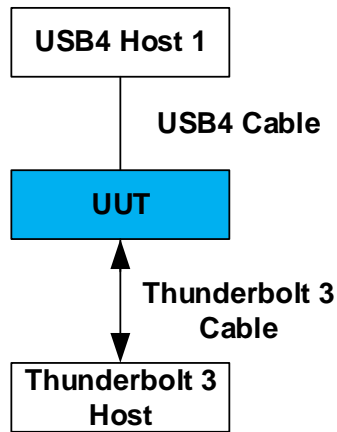

Figure 4-6: USB4 Host to Thunderbolt 3 Host Communications with a UUT (USB4 Hub Under Test) in Between
1. Connect the USB4 Host to a Thunderbolt 3 Host (with a USB4 Hub in between) as shown in Figure 4-6.